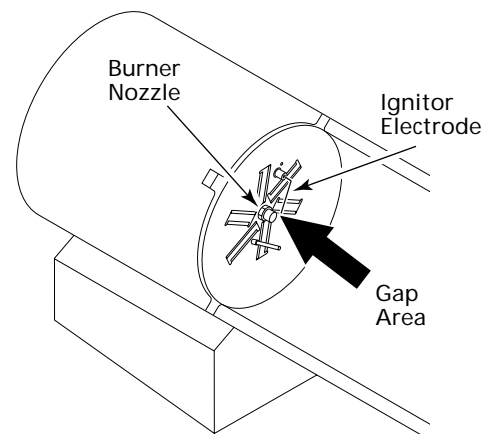

Figure 13 - Clearance between Ignitor Electrode and Target Plate
- Check gap between ignitor electrode and target plate. Gap should be .13" to .15" (See Figure 13).